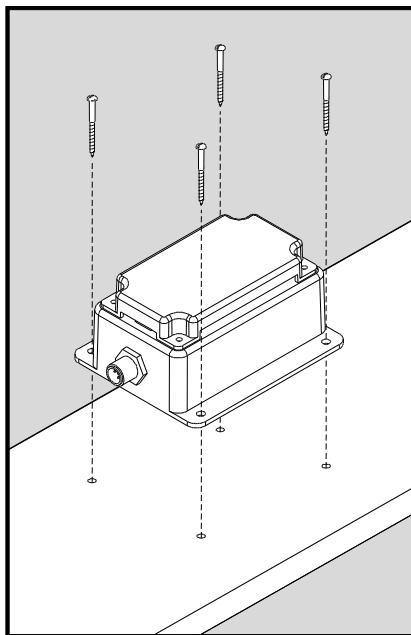

Figure 3 – Mounting the FPM100
Attach the FPM100 securely to the vessel using the included stainless steel mounting screws or other fasteners as shown in Figure 3 below. Do not use threadlocking compounds containing methacrylate ester, such as Loctite Red (271), as they will cause stress cracking of the plastic enclosure.